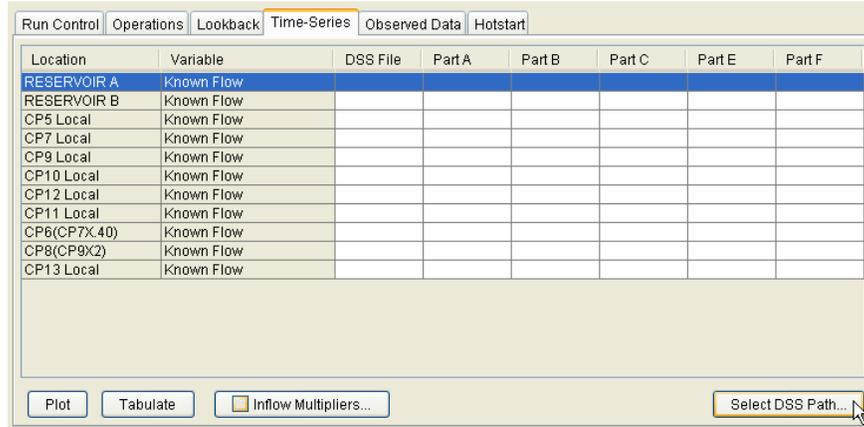

Figure 31. Alternative Editor, Time-Series Tab (for Mapping Data)
- On the **Time-Series** tab [Section 13.8] select a row in the time-series mapping table (as shown in Figure 31). Each row in the table represents a *required input* for a local flow location (specified in the Local Flow tab within the Junction editor), an element/parameter you have defined on the Lookback tab as Time Series, or a Time Series that is referenced in the Operation rules. To attach a time-series record to the selected location, press the **Select DSS Path** button.